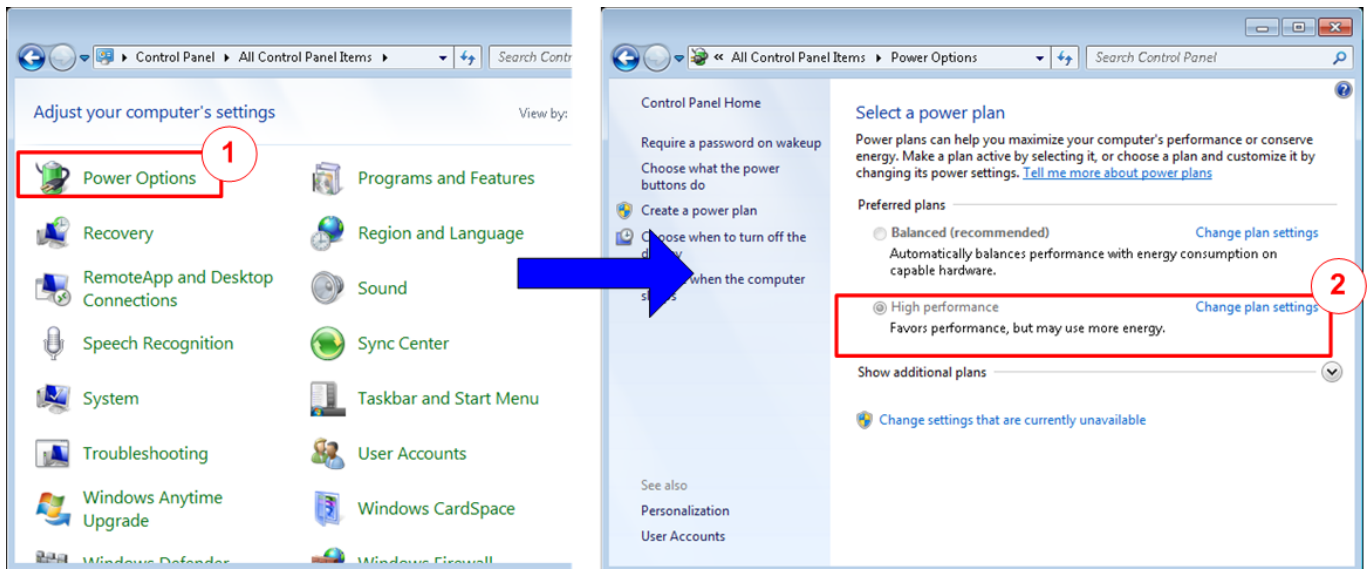

Figure 2-6 Power options
- 1) Open Control Panel and select Power Options as shown in the left window of Figure 2-6.
- 2) Change setting to High Performance as shown in the right window of Figure 2-6.